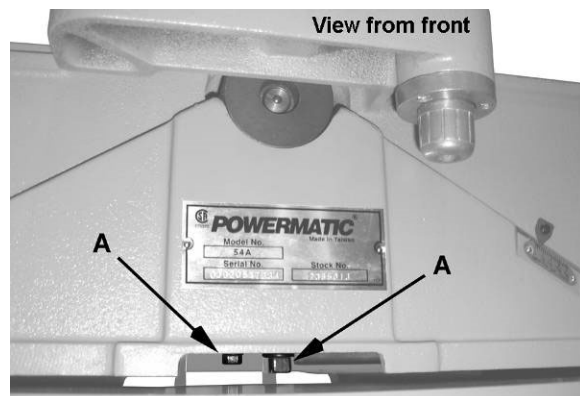

Figure 47
6. Using an 8mm hex wrench, loosen two hex cap screws underneath *fence base casting* (E) that secure the casting to the *table* (F). Remove the *fence base casting* and set aside.
7. Remove four *screws* and *washers* (A) securing the *belt guard* (B). Remove the *belt guard*.
8. Using a 14mm wrench, remove two screws (A, Fig. 47) and *lock washers* that secure the cutterhead bearing housings to the base.